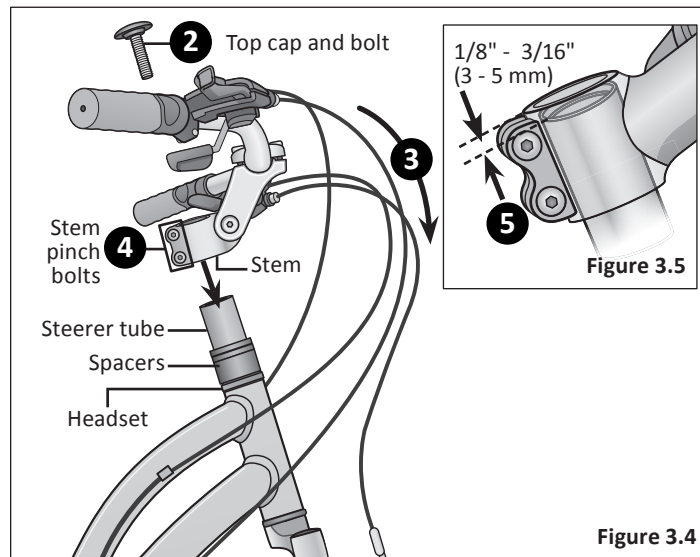

Figure 3.4
- 2 Using a 5 mm Allen wrench loosen the top cap bolt on the steerer tube and remove the top cap and bolt. **Important! Do not** remove the spacers. **Figure 3.4**